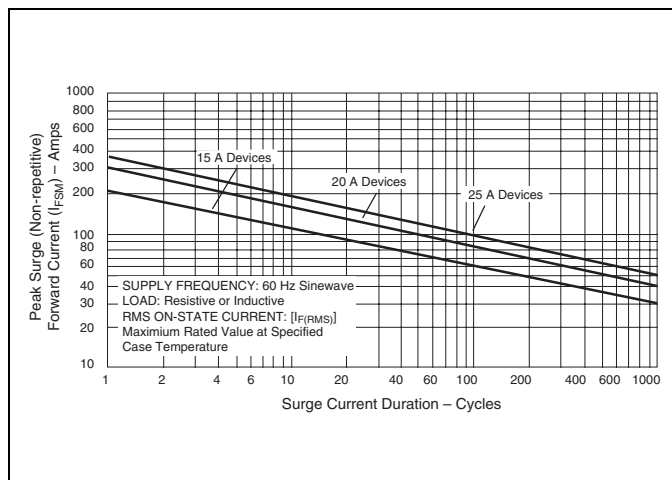

Figure E7.4 Peak Surge Forward Current versus Surge Current Duration
- For more than one full cycle rating, see Figure E7.4.